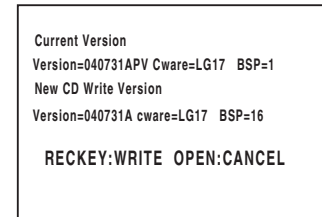

Fig. 3-1-8
- 3) Press the REC ● button on this DVD recorder three times: Both the current version of main firmware and the version of main firmware on the disc will appear on the screen (Fig. 3-1-8).
- 4) Pressing the REC ● button on this DVD recorder will start writing (Fig. 3-1-8).